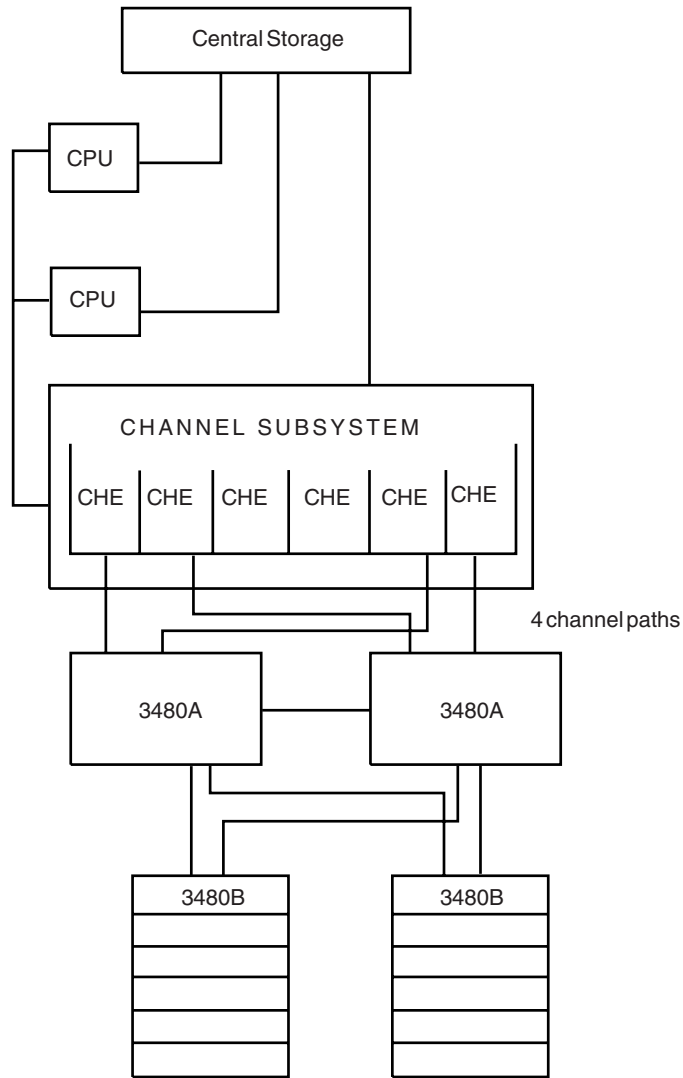

Figure 12-5. Tape Configuration for Maximum Availability (3090 Complex)
- Figure 12-5 on page 12-5: Tape